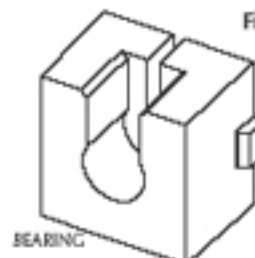

Figure 16
14. Retrieve the bypass side panel at the beginning of the installation (Fig. 16) and install it into the center of the side panel. (Fig. 17) If you are repairing a bearing